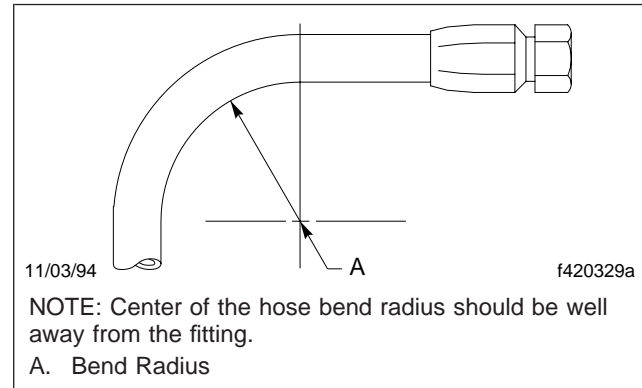

Fig. 9.4, Bend Radius
35.9 Check the bend radii of all hoses. See **Fig. 9.4**. The minimum bend radius of a hose is that bend which the hose will withstand without experiencing damaging stresses or kinking. For minimum bend radius values, see **Group 42** of the *Cargo Workshop Manual*.